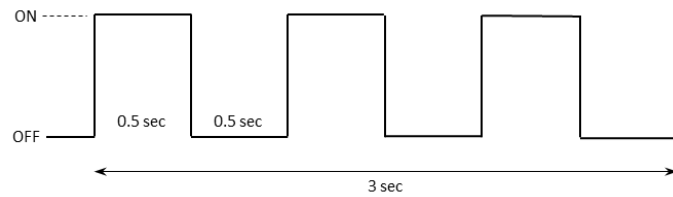

Figure 1-8: The GREEN LED Pattern Upon Waking from DEEP SLEEP
1. **GREEN** is toggled ON and OFF every 0.5 sec for 3 sec as shown in Figure 1-8.